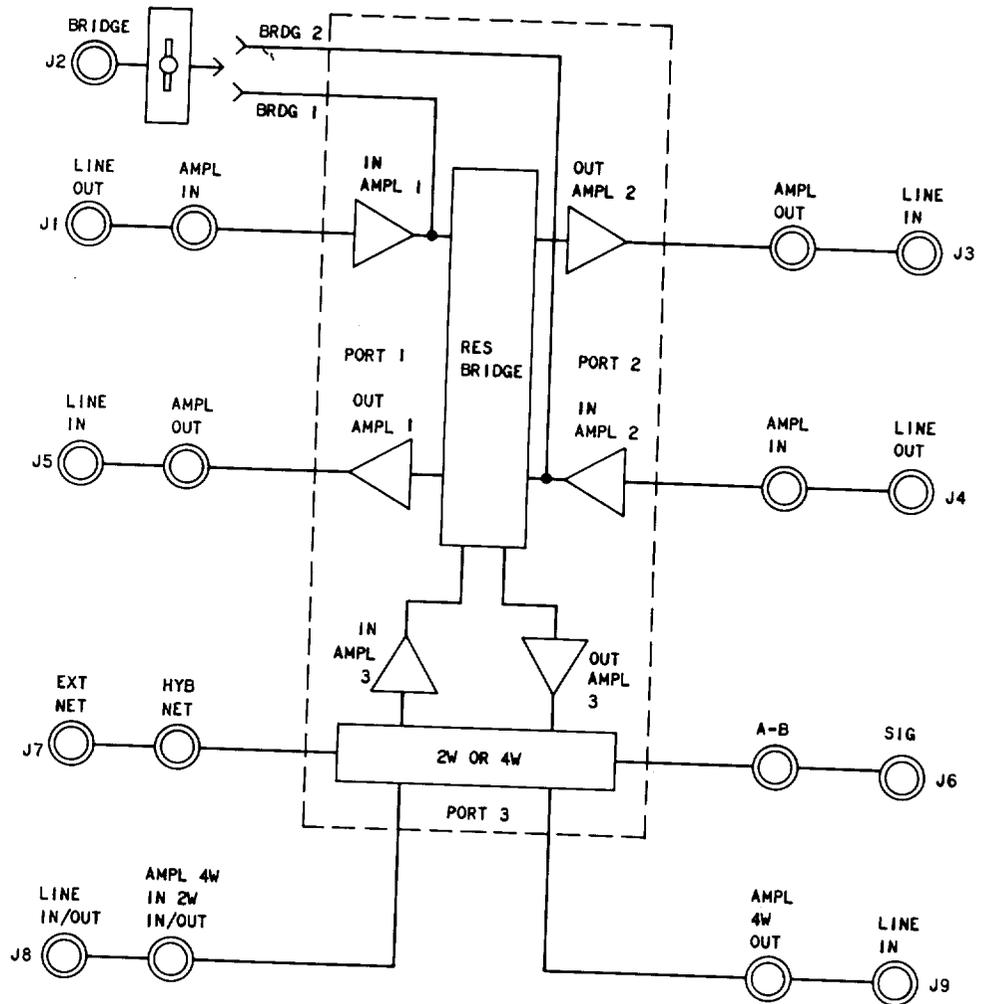

Fig. 3—Block Diagram of the Test Extender
**3.01** Each of the three ports of the bridging repeater is terminated in double jacks located on the test extender (Fig. 3). One jack of each pair faces the cable facility and the other jack faces the repeater. When a plug is inserted into a jack, the circuit is opened to the other jack. This allows tests to be made on the cable facility without the repeater bridged on the circuit; this arrangement also allows testing of each of the repeater ports without having the cable bridged on during repeater tests.